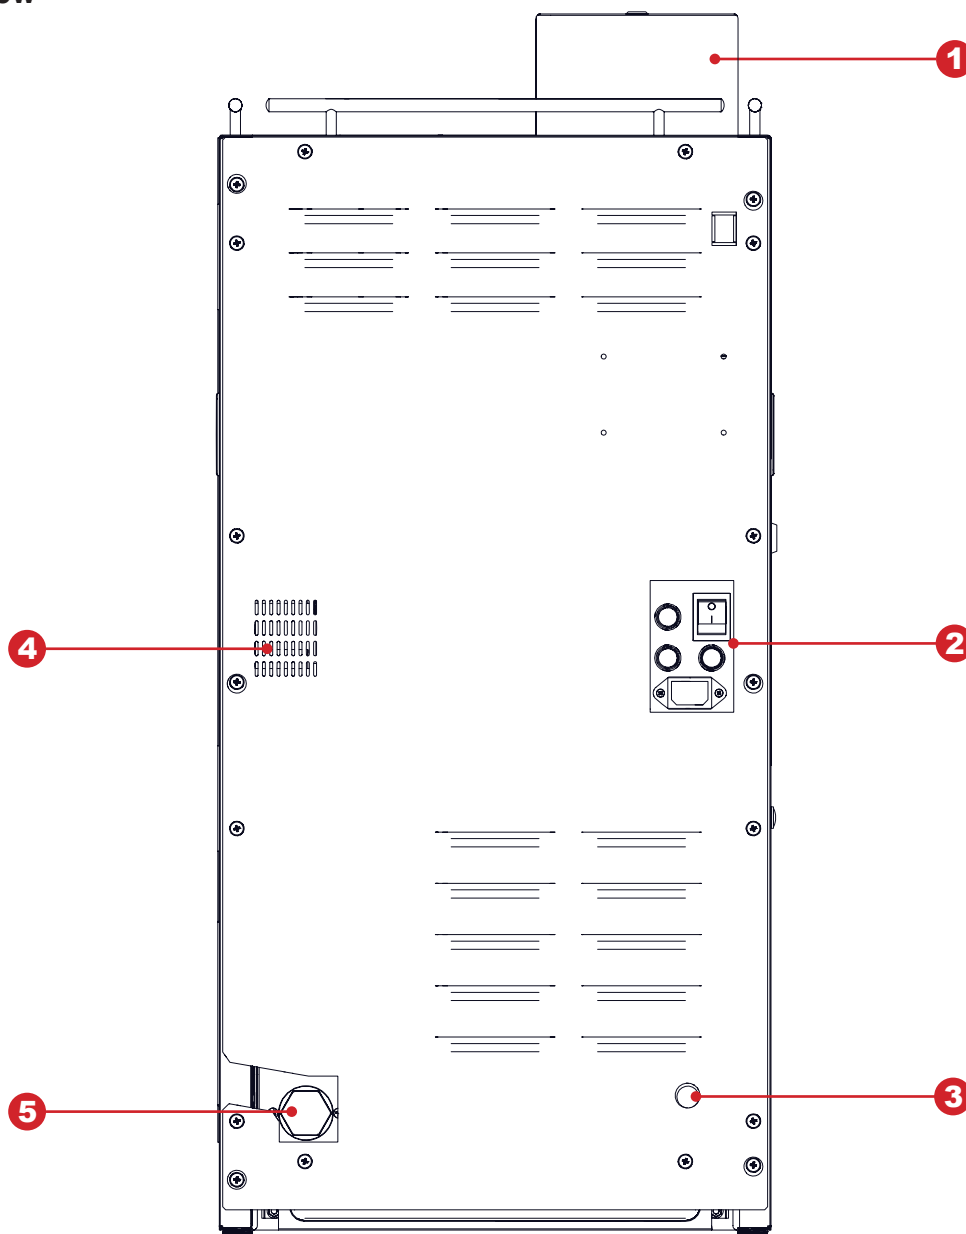

Fig. 5.4
The vending machines can also be connected directly to the water supply mains, taking into consideration the applicable laws of the country of use. The inlet nozzle for connection to the water supply mains is situated on the rear panel of the vending machine (see fig.5.4) and comprises of a threaded connector of diameter $\frac{3}{4}$ ". The machine is connected using a pipe, which can handle the pressure of the water supply and which is suitable for use with food products (minimum inner diameter of 6mm).
- Set the switch on the switch board of the machine to position **[O/OFF]** (see fig.5.4 pos.2);
- Set the switch on the switch board of the machine to position **[I/ON]** (see fig.5.4 pos.2).
For water supply connection we have a silicone water pipe, which comes with the package (see fig.4.2 pos. 5), which from one end is connected to water inlet (see fig.5.4 pos.3) and from the other end of the tube is immersed into the source of water (canister/bottle).